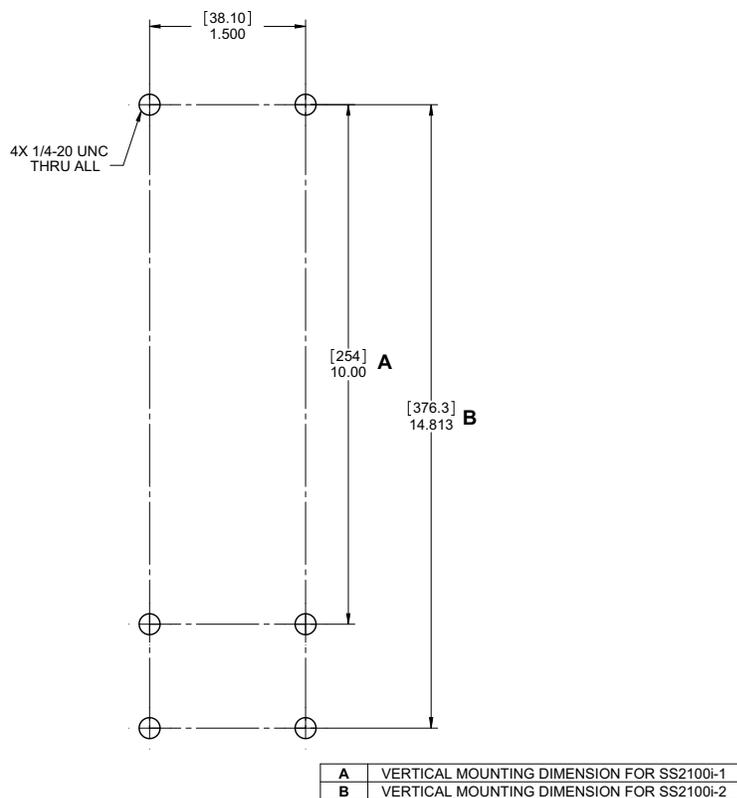

Figure 2–3 Hole pattern for mounting 0.1 m and 0.8 m measurement cell
1. Mark the mounting holes on the panel. Refer to Figure 2–3. Drill and tap the 1/4-20 holes.
2. Mount cell with bracket. Refer to Figure 2–4 and Figure 2–5.